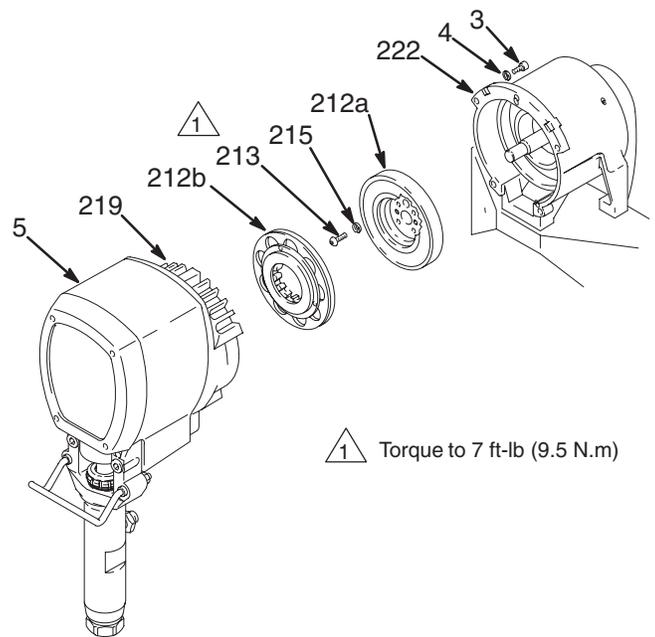

Fig. 19
2. Be sure the face of the **rotor (212a)** and the field (210) is free of all oil and contaminants. Remove any burrs on the outside edge of the rotor. Install the rotor, lockwashers (215) and capscrews (213). Torque the capscrews to 7 ft-lb (9.5 N.m). See Fig. 19.
3. Be sure the face of the **armature (212b)** is clean. Assemble the armature to the hub in the pinion housing (219). A retaining ring located within the armature makes it difficult to assemble these parts. Follow this procedure for the best results. First, engage a few splines of both parts. While they are engaged, use a screwdriver to gently push the retaining ring into the armature, and finish engaging the splines. Push the armature onto the shaft until it contacts the ring. See Fig. 19.
4. Assemble the **pinion housing (219)** to the clutch housing, using the capscrews (3) and lockwashers (4). See Fig. 19.